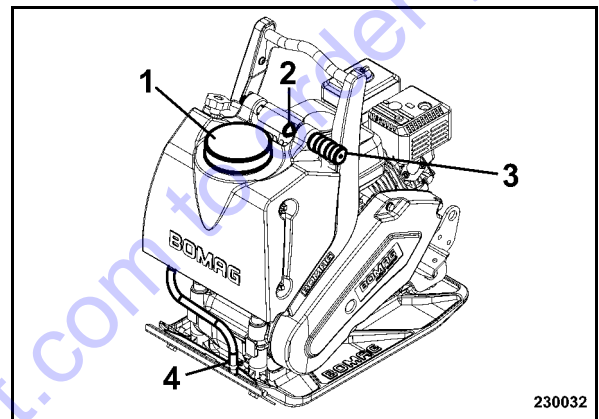

Fig. 44
- Open the water tank cover (1) (Fig. 44) and fill in clean water.